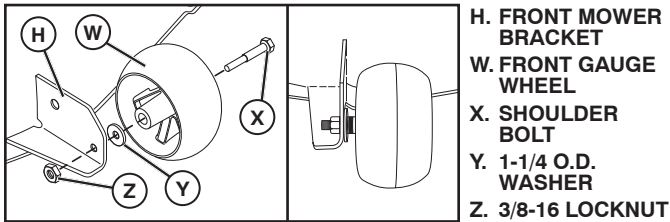

Fig. 25
## 2. ASSEMBLE FRONT GAUGE WHEEL (W) TO FRONT OF MOWER (See Fig. 25)